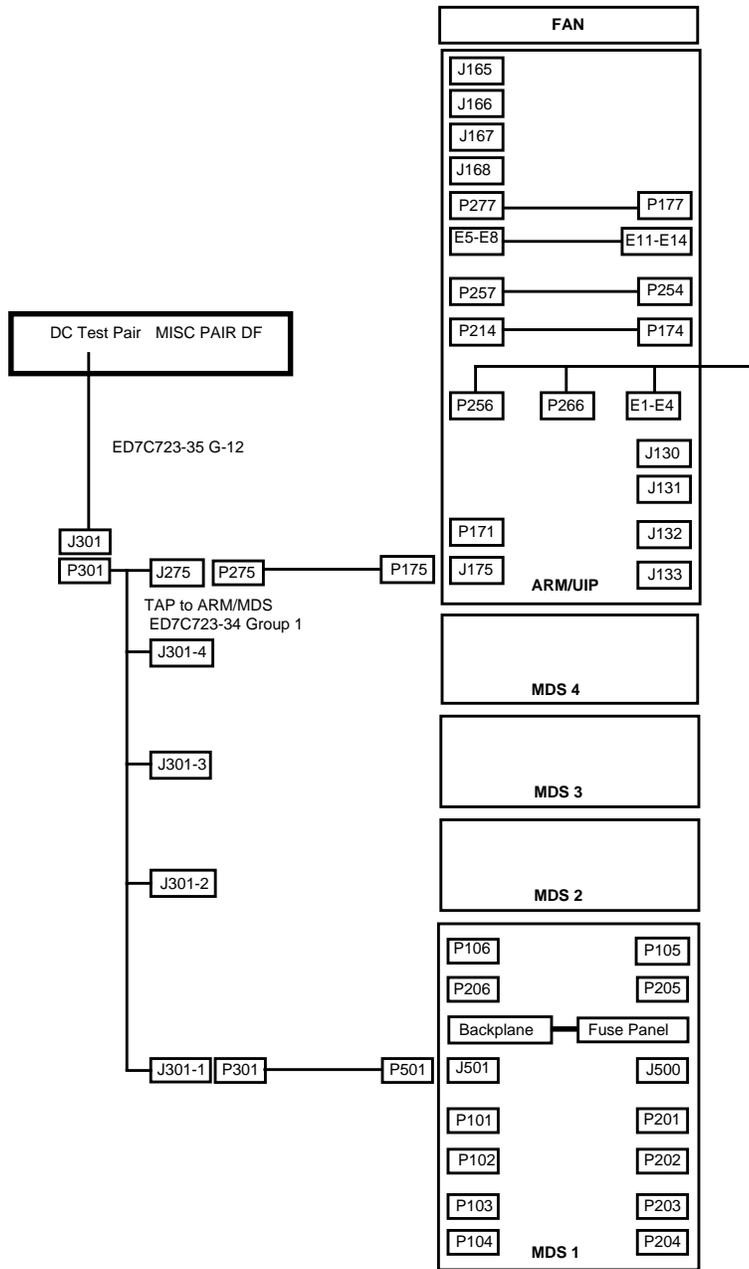

Figure 3-51. DC Test Pair Interconnection
- Step 2:* Terminate only the DC Test Pair at the miscellaneous pair panel and label the leads in accordance with the Figure 3-51.